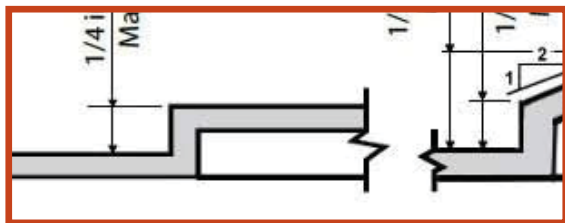

Figure 3 Surface Discontinuities
- Surface discontinuities must not exceed a $\frac{1}{2}$ inch maximum. Vertical discontinuities between $\frac{1}{4}$ -inch to $\frac{1}{2}$ inch should be beveled at a maximum of 2:1 or flatter, and bevels should be constant across the entire level change. New surfaces must not have vertical surface discontinuities. Curb ramps, landings, and gutter areas must not have surface discontinuities. (See Figure 3 below.)